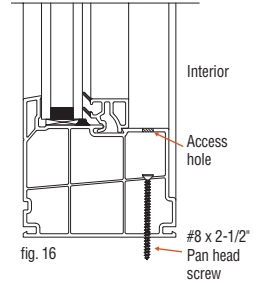

fig. 16
- Pre-drill 3/8" access holes through the outer wall of the frame as shown on **fig 16**. Place the holes 4" from each corner and then spaced evenly every 8" to 14" apart. The number of fasteners are dependent on the overall frame size.